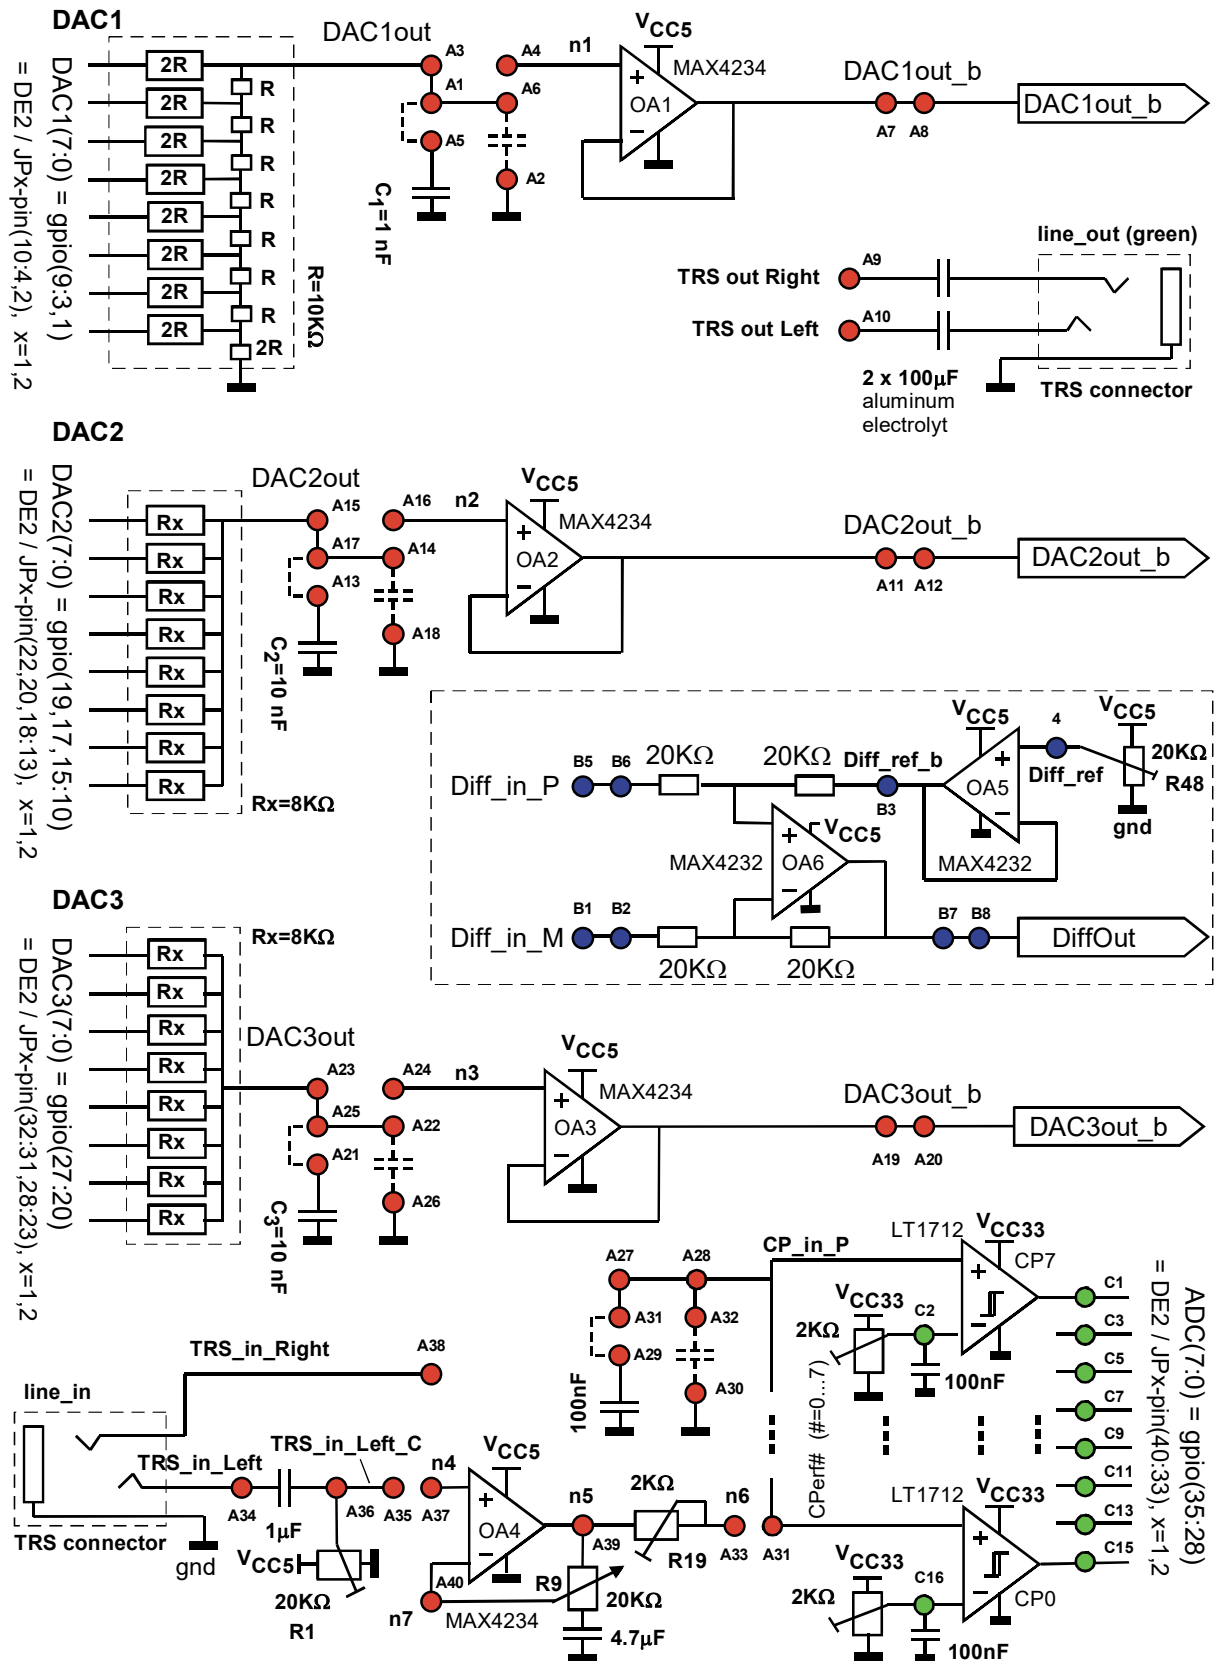

Fig. 2.1: Schematics of the ADA daughter board
- Fig. 2.1 shows the ADA daughter board schematics.